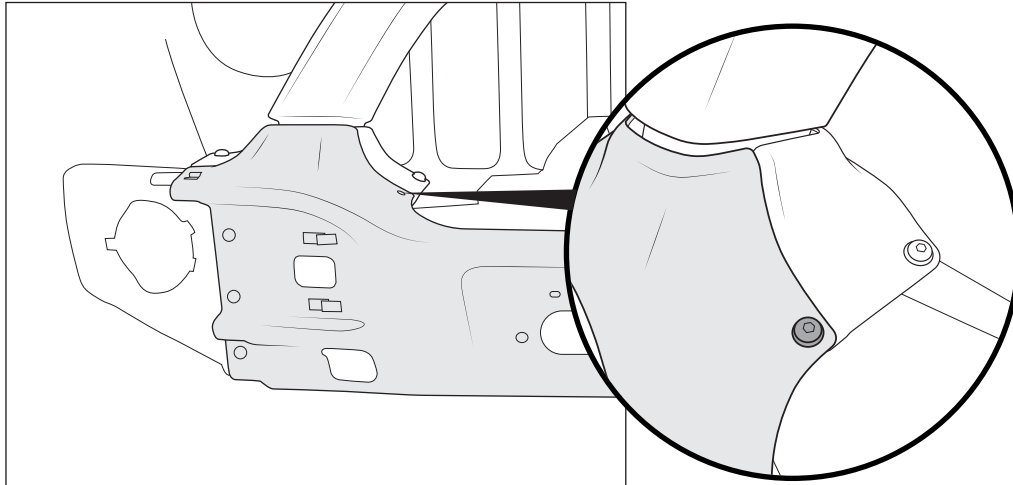

Figure 21
2. Install center section onto front of vehicle. It should pass over the offset front portion of the tube closeout stampings. Center can be retained by passing black M8x25mm button head bolts with washers through the top inboard holes and through the tube closeout stamping. Loosely install black flange nuts from the back side (fig. 21). If using AEV winch plate, remove then reinstall black M10x25 bolts and washers from winch kit through the bottom of the center section and into the weld nuts in the winch plate (see fig. 21). Remove the outer bolts holding the tube closeouts in place so that corners can be installed.